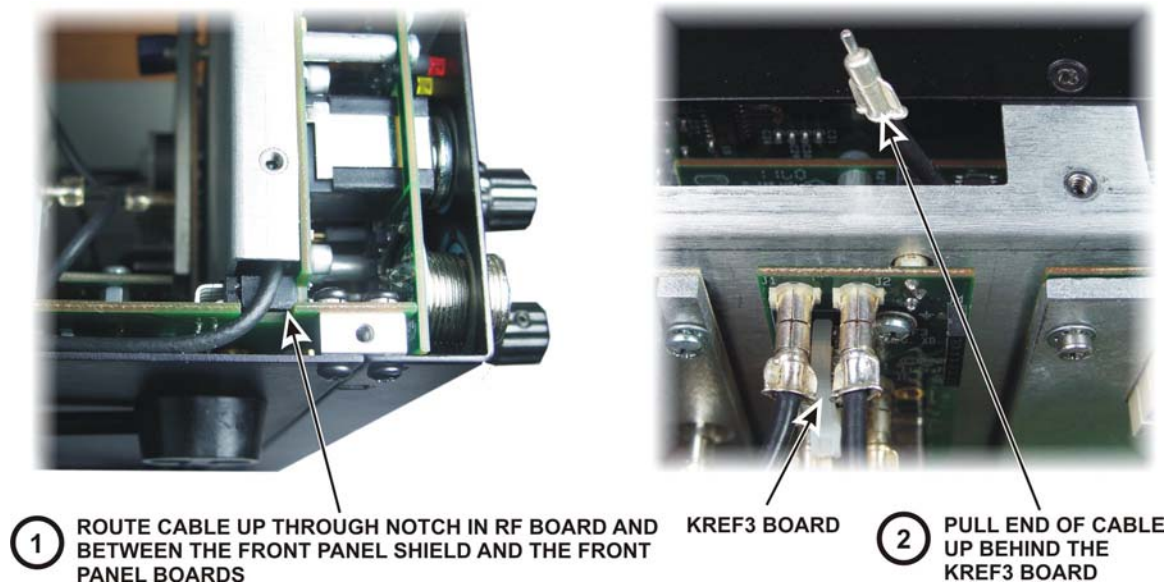

Figure 5. Routing the SMA-TMP Cable Behind the Front Panel.
□ Route the cable through the notch near the front of the RF board and up between the front panel shield and the front panel board assembly. Bring the end of the cable up above the front panel shield behind the KREF3 board as shown in Figure 5.